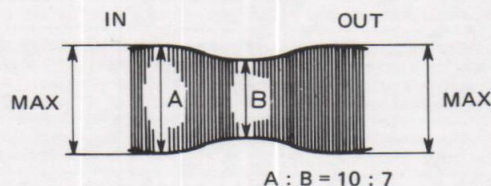

Figure 41
- ④ While observing the envelope waveform, fine adjust the height of the guide roller so that the envelope becomes flat. Correctly adjust the height of the guide roller so that the flatness of the waveform will not be severely affected by turning the tracking control.
- ⑤ Carefully adjust so that the ratio of portions A and B in the RF waveform (Fig. 41) becomes better than A=10 : B=7 when the position of the tracking control is turned to a point where the "A" portion in the RF waveform starts to decrease.
- ⑥ Adjust the playback switching point in accordance with the playback switching point adjustment procedures described in the Electrical adjustment procedures.
- ⑦ Using a self-recording/playback tape, record and play back colour bars, then check to see that the envelope waveform becomes flat.
- ⑧ After the adjustment procedures are completed, tighten the guide roller set screw.
- ⑨ Finally check the RF envelope waveform.